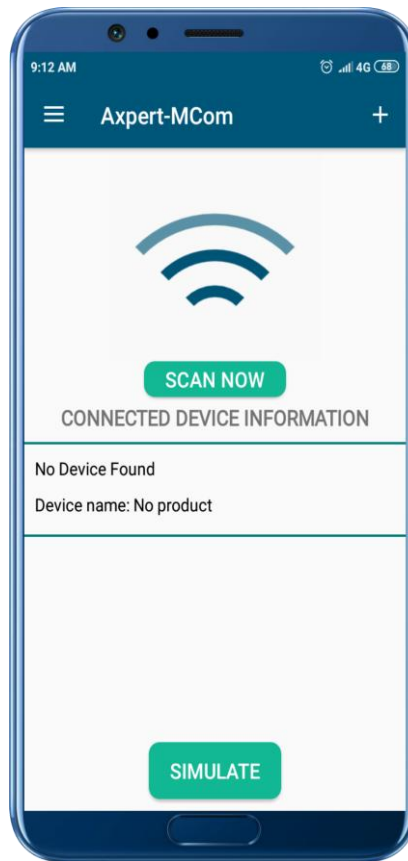

Figure 5: Dashboard of Application
- After clicking the accept button, the dashboard screen will open (Figure 5). It lists all the devices connected with the application.
- You can navigate to hotspot configuration menu by clicking on the “+” symbol on the top right corner of the dashboard screen in the application (Figure 5).